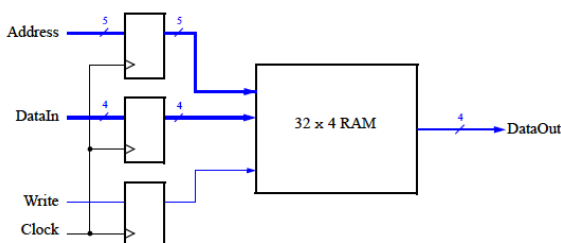

Figure 7.1: Schematic of the 32x4 embedded memory module.
A general sketch of a memory module is shown in Figure 7.1. It consists of a memory block, an address register, a data register and a control register (we are only looking at write operations in this example). You can see that the address, input data, and the write enable control signal are all stored in registers before being presented to the memory unit. The registers are used here to model the address and data registers on a typical processor and serve the function of keeping the input values stable for a full clock cycle while the inputs are being changed between clock cycles.
1. **A:** On the top left, the 5-bit input A is **Address** in Figure 7.1.
2. M3 [Write enable]: Just below A, M3 is WriteEn in Figure 7.1.